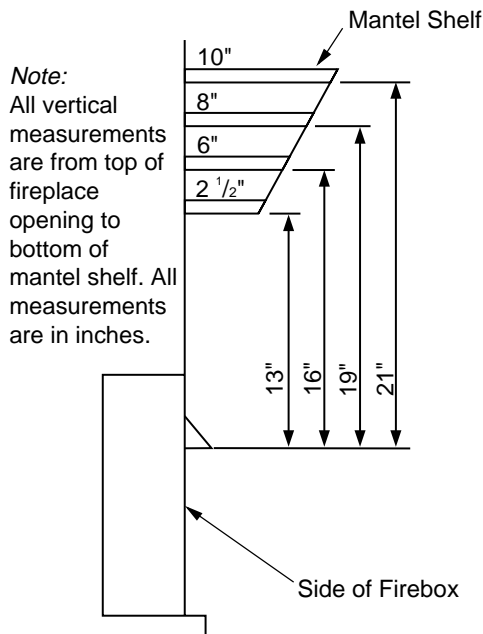

Figure 11 - Minimum Mantel Clearances for Built-In Installation
- C. For mantel clearances, see Figure 11 on page 11.
Built-in installation of this fireplace involves installing fireplace into a framed-in enclosure. This makes the front of fireplace flush with wall. An optional brass trim kit accessory is available (see *Accessories*, pages 38 and 39). Brass trim will extend past sides of fireplace approximately 1/2 inch. This will cover the rough edges of the wall opening. If installing a built-in mantel above the fireplace, you must follow the clearances shown in Figure 11, page 11. Follow the instructions below to install the fireplace in this manner.